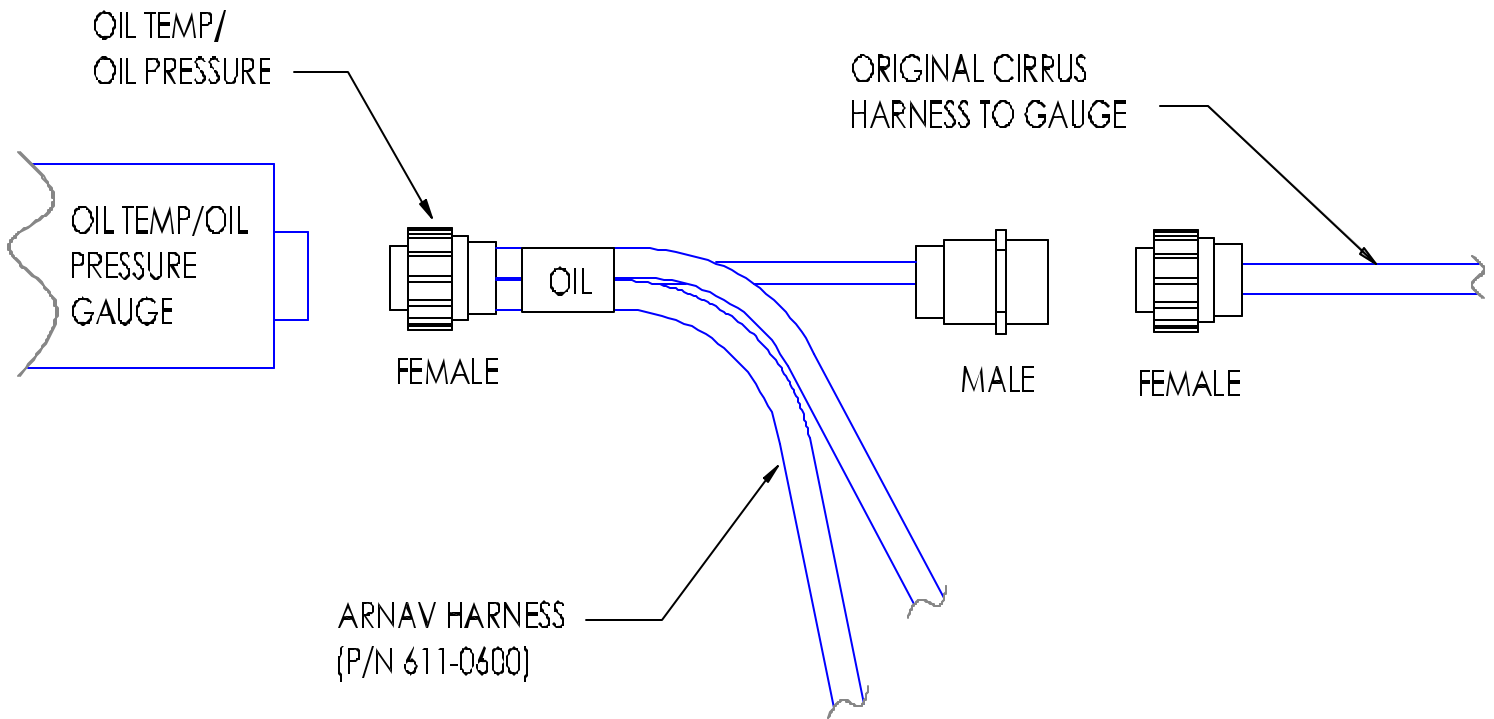

Figure 6-1
5. Connect the other 9-pin connector of the 611-0600 harness to the 9-pin connector that was removed from the indicator. (Refer to **Figure 6-1**).